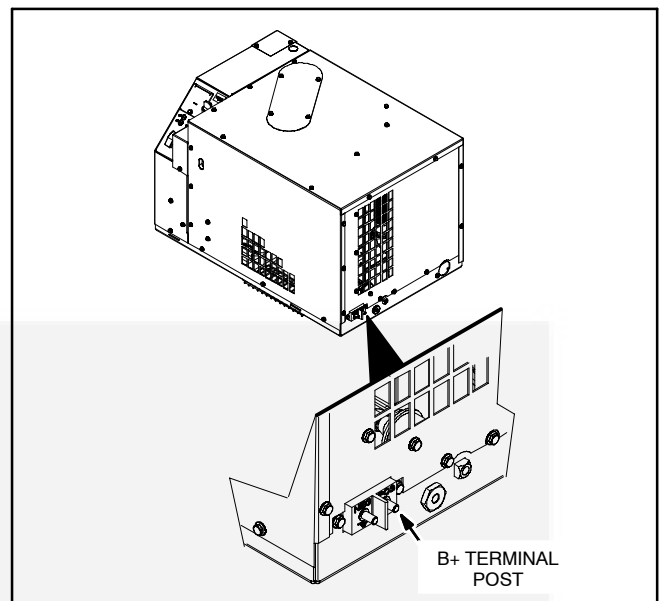

FIGURE 4-5. B+ TERMINAL ON DIESEL GENSETS
- D. Install the control harness BATT+ terminal ring (purple wire) on the B+ terminal post on the genset (see Figure 4-5).